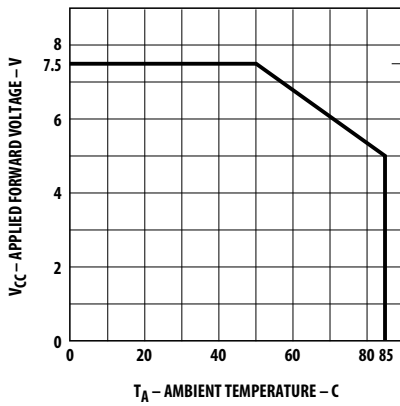

Figure 3. Maximum allowed applied forward voltage vs. ambient temperature  $R\theta_{JA} = 175^{\circ}\text{C}/\text{W}$ . 5 volt devices.
2. Derate from TA = 50°C at 0.071 V/°C, see Figure 3.